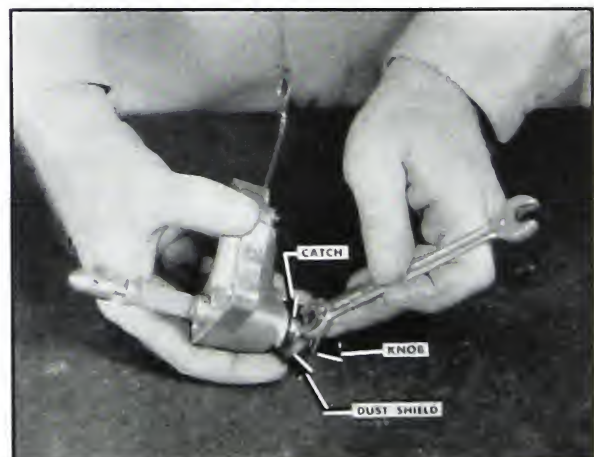

Fig. 5-246. Replacing knob and dust shield
8. Screw on the reset knob and dust shield, and lock the knob against the catch. Seat the dust shield over the knob and housing. Fig. 5-246.